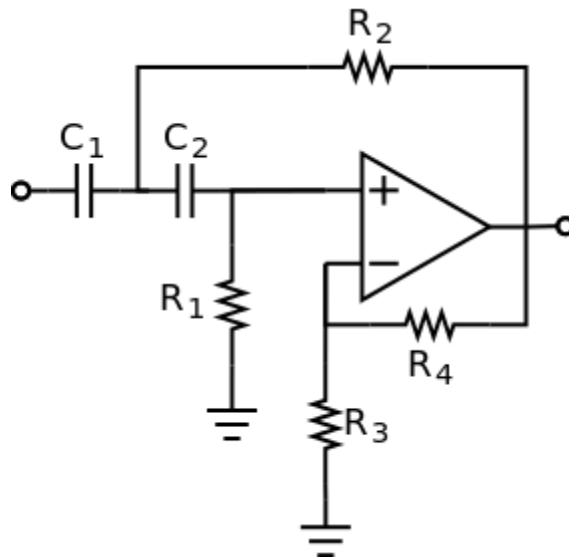

Figure 1: Sallen-Key active HPF implementation
The circuit of Figure 1 represents a Sallen-Key (VCVS) implementation of a second-order active HPF. In its simplest form with equal resistor and capacitor values i.e. $R_2 = R_1 = R$ and $C_2 = C_1 = C$, the response of the filter may be written in the form
- C. How many stages are required to implement this design using the Sallen-Key (VCVS) filter configuration (Figure 1)?